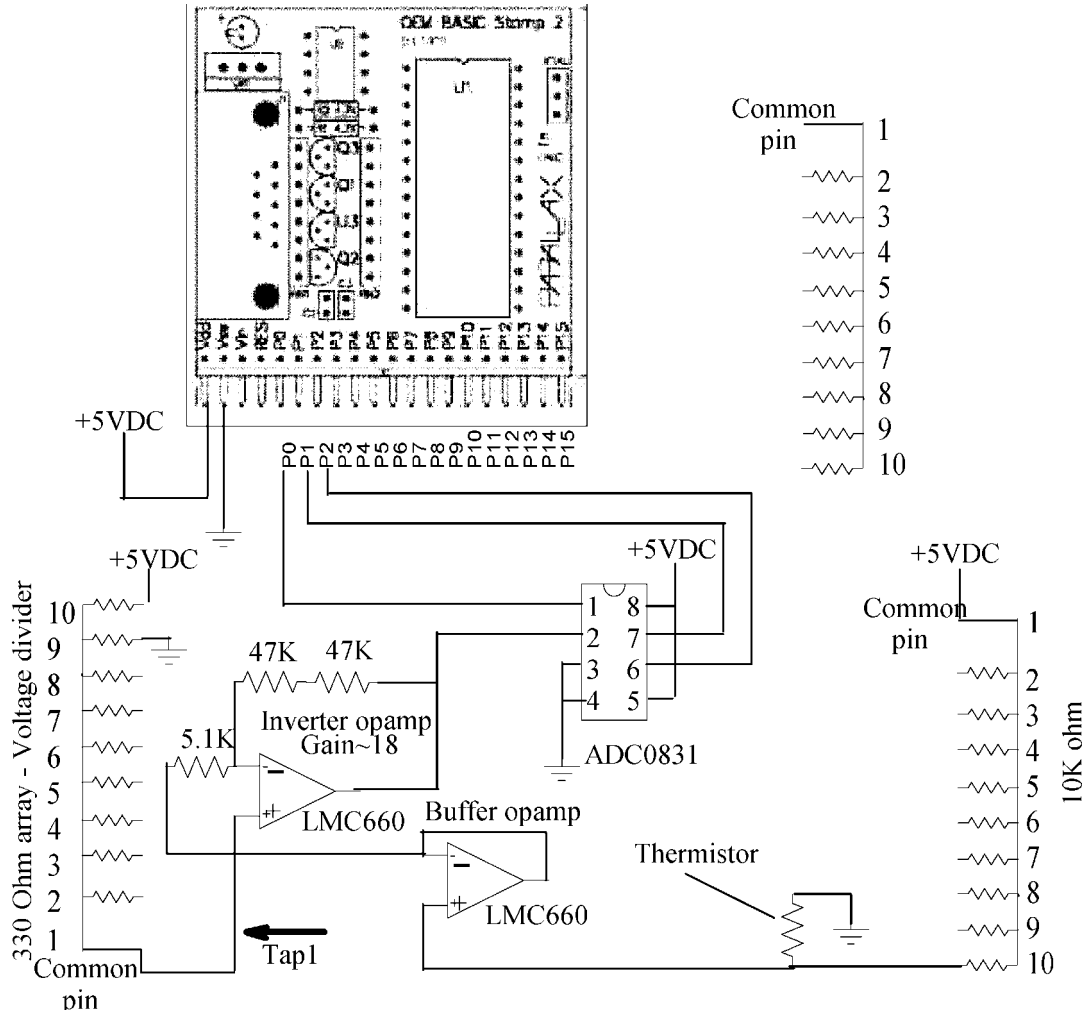

Figure 4
- e. Show the TA that when you change the input of the ADC0831 to the 330 Ohm voltage divider at Tap 1 on Figure 4, your binary output is near 1000,0000 in binary (i.e, 128 in decimal or 2.5 volts).**